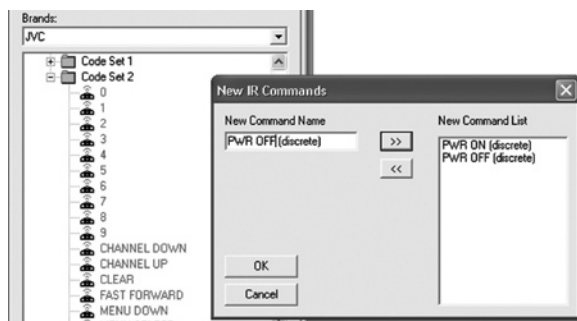

Figure 71 Adding New Command Names to a Command List
4. Click the >> arrows to place the new command name in the **New Command List**. Refer to **Figure 71**.